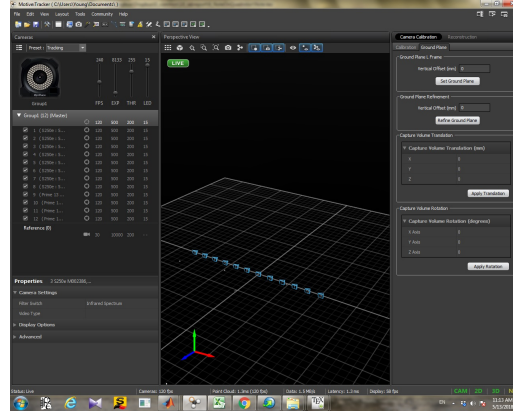

Figure 2: Figure of the front panel of the motion capture software
3. Turn on the power of the motion capture system. There is a power extension cord on the ground. If the power is on, the motion capture cameras can be seen in the motion capture software as shown in Fig. 2. The blue LEDs on several motion capture cameras are turned on.